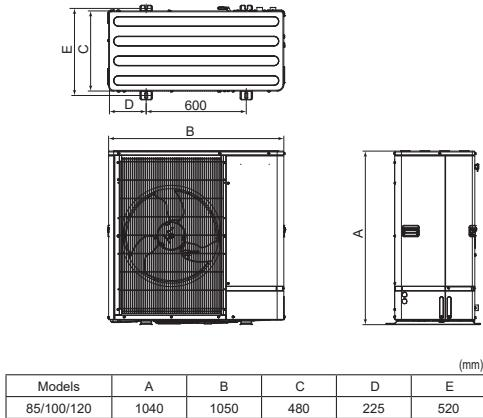

Fig. 2-1
2.1. Outline dimensions (Outdoor unit) (Fig. 2-1)